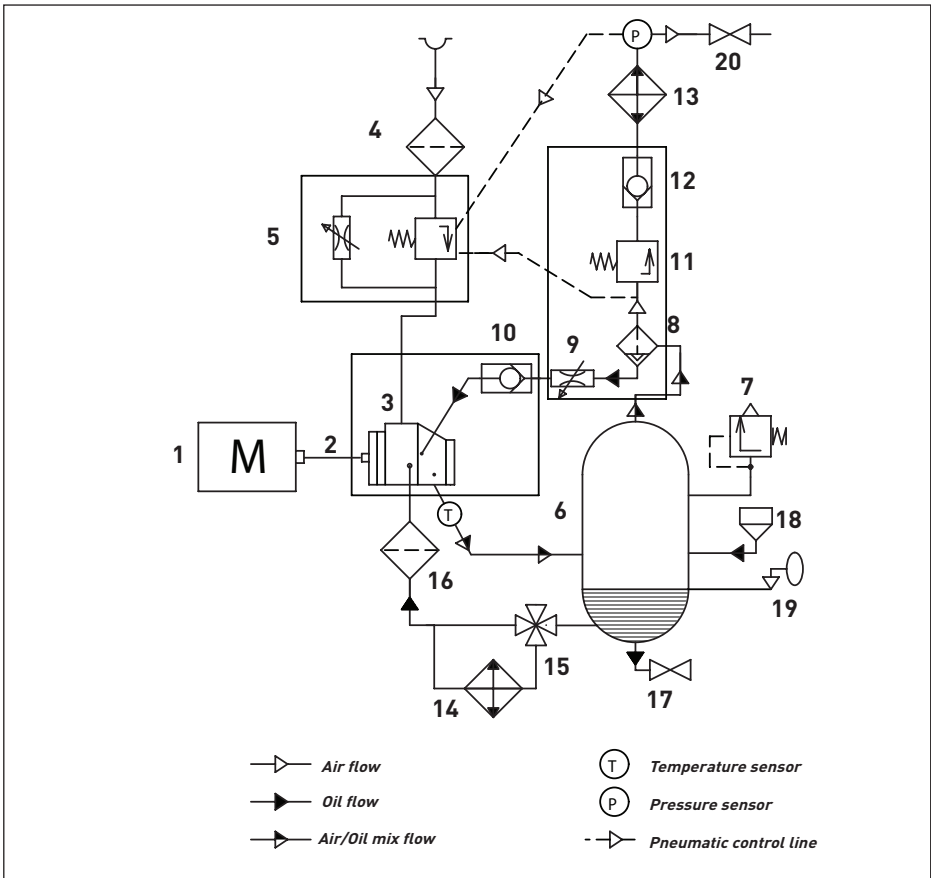

Fig. 2.3 Function diagram D30-D55
2.4 Functional description (see Fig. 2.3)